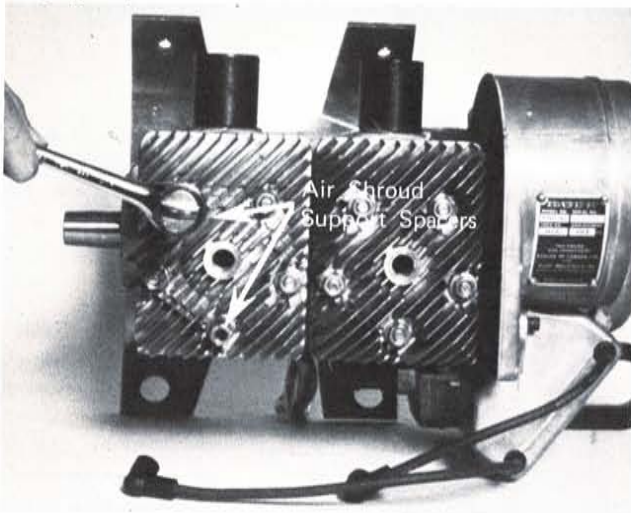

FIG. 18
17. Before disassembly scribe matching marks on intake side of cylinder heads, cylinders and crankcase. Remove the ten nuts that secure cylinder heads. Note: Mark positions of air shroud support spacers for reassembly. (Fig. 18)